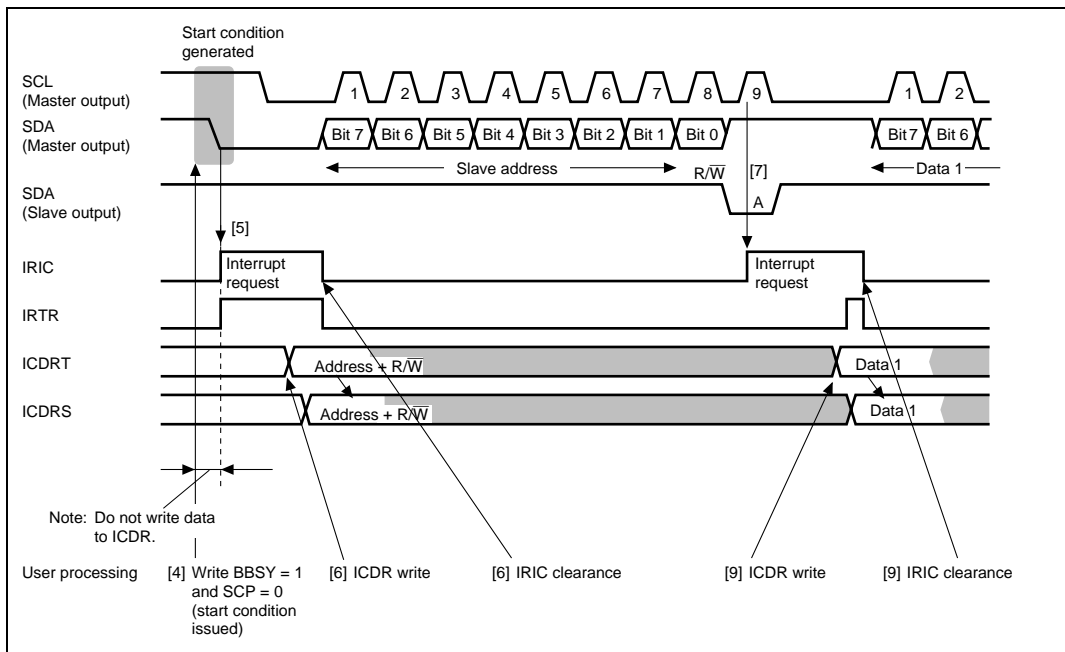

Figure 14.8 Example of Master Transmit Mode Operation Timing (MLS = WAIT = 0)
6. After the start condition is detected, write the data (slave address + R/W) to ICDR. With the I²C bus format (when the FS bit in SAR or the FSX bit in SARX is 0), the first frame data following the start condition indicates the 7-bit slave address and transmit/receive direction (R/ \overline{W}). As indicating the end of the transfer, and so the IRIC flag is cleared to 0. After writing ICDR, clear IRIC continuously not to execute other interrupt handling routine. If one frame of data has been transmitted before the IRIC clearing, it can not be determine the end of transmission. The master device sequentially sends the transmission clock and the data written to ICDR using the timing shown in figure 14.8. The selected slave device (i.e. the slave device with the matching slave address) drives SDA low at the 9th transmit clock pulse and returns an acknowledge signal.